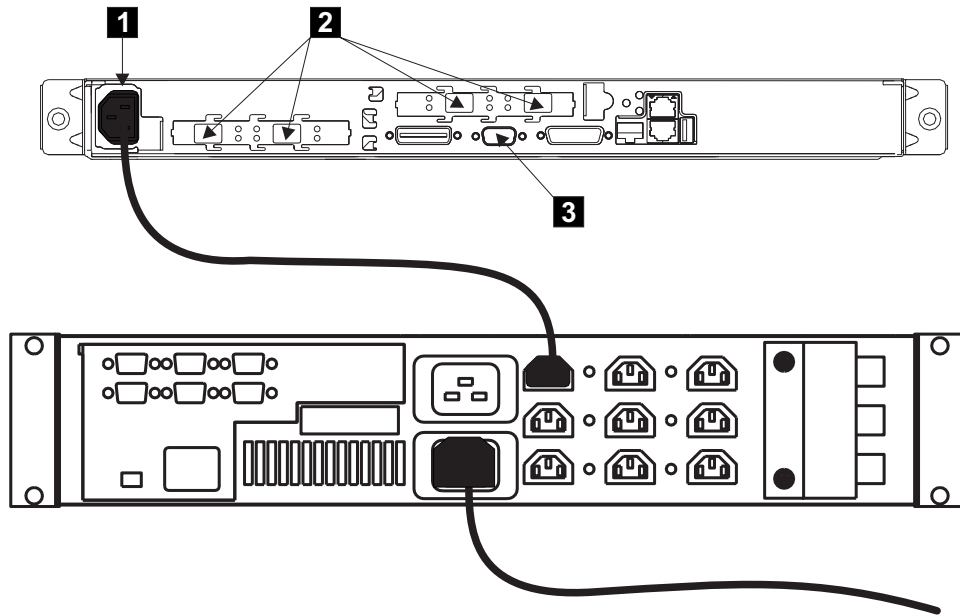

Figure 1. Power cable and signal sockets
This topic tells you how to check the grounding of the SAN Volume Controller. Figure 1 on page xiv shows the connectors for the SAN Volume Controller and the uninterruptible power supply.
2. Ensure that the power cable **1** is plugged into the uninterruptible power supply. Also ensure that the other ends of the power cable are connected to the power supply in the rack. See Figure 1 on page xiv.